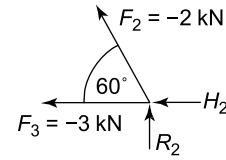

Figure 7.33
Consider next joint (3); see Figure 7.33.